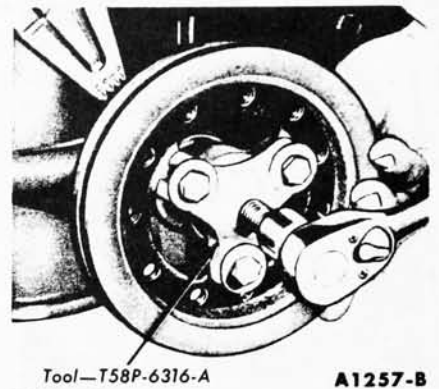

FIG. 53—Crankshaft Damper Removal
7. Remove the cap screw and washer from the end of the crankshaft. Install the puller on the crankshaft damper (Fig. 53) and remove the damper.